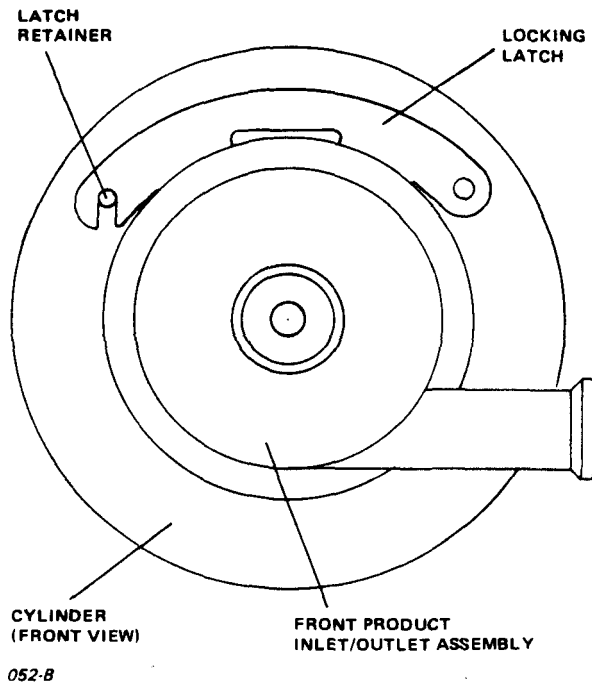

Figure 5-1. Front Product Inlet/Outlet Assembly Removal
- (d) Loosening the latch retainer (see figure 5-1)
- (e) Lifting the locking latch (see figure 5-1)